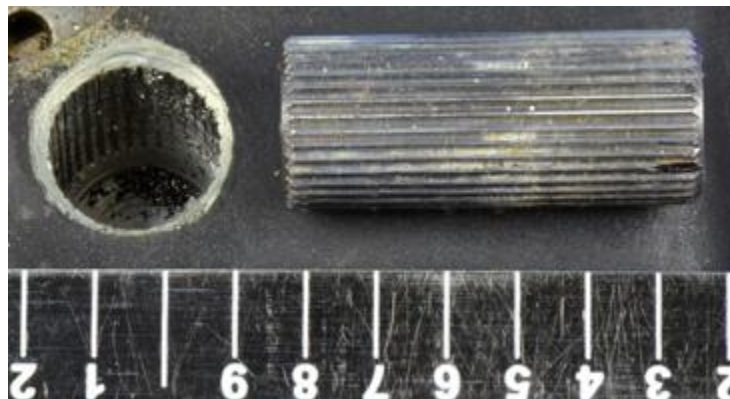

Figure 4. Shaft removed from housing.
4. Remove the stop assembly from the housing. (Figure 4)